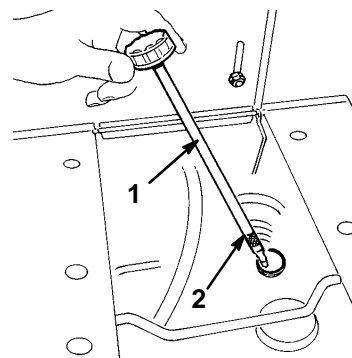

Figure 7
2. Clean around the oil dipstick (Fig. 7) so dirt cannot fall into the filler hole and damage the engine.
3. Unscrew the oil dipstick and wipe the metal end clean (Fig. 7).